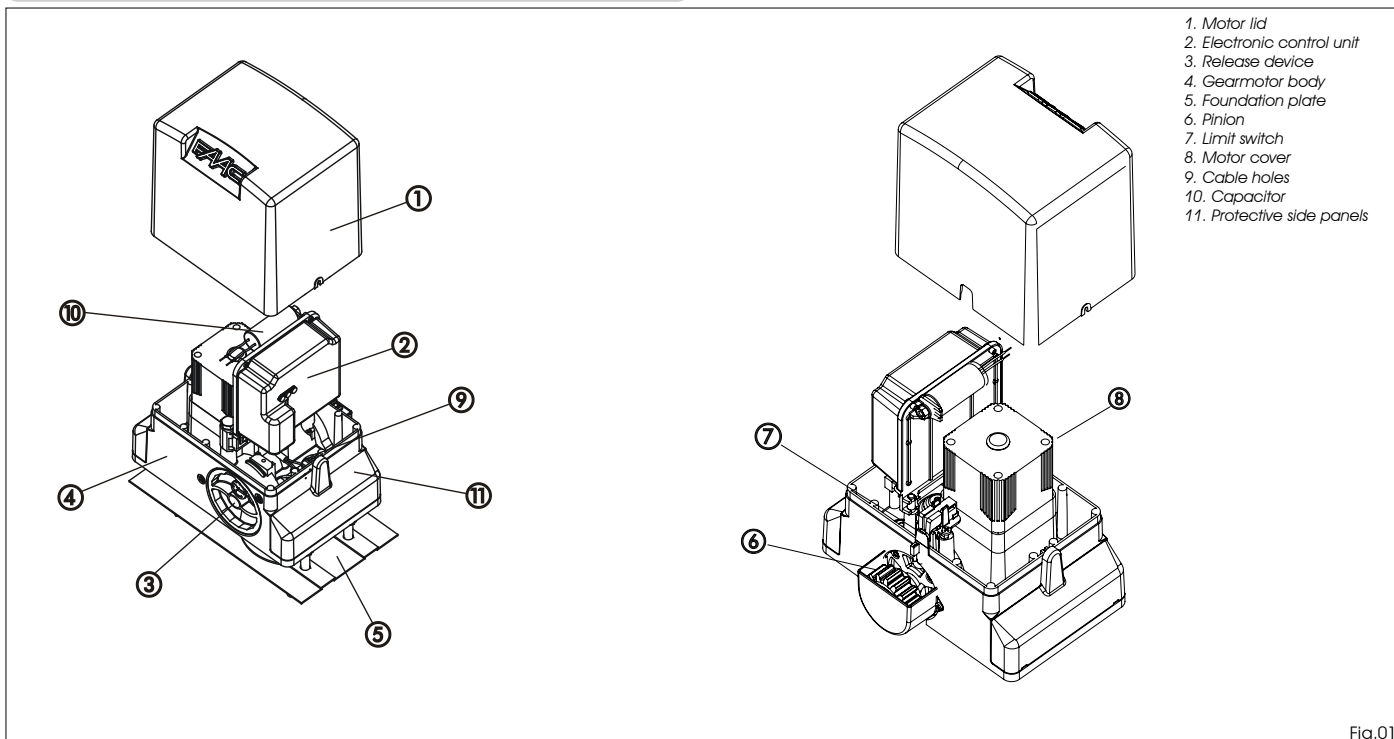
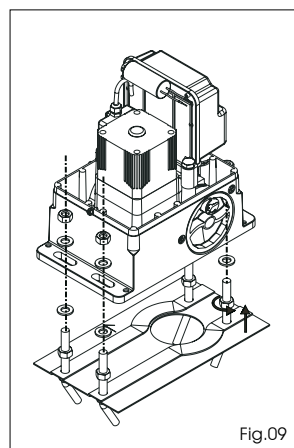

Fig.01
Fig.09
- 2- Position the operator on the foundation plate, using the supplied washers and nuts as shown in Fig. 09. During this operation, route the cables through the appropriate openings in the motor body (See Fig.01 ref.9). If necessary, the two holes can be joined using a hammer to obtain a wider space.